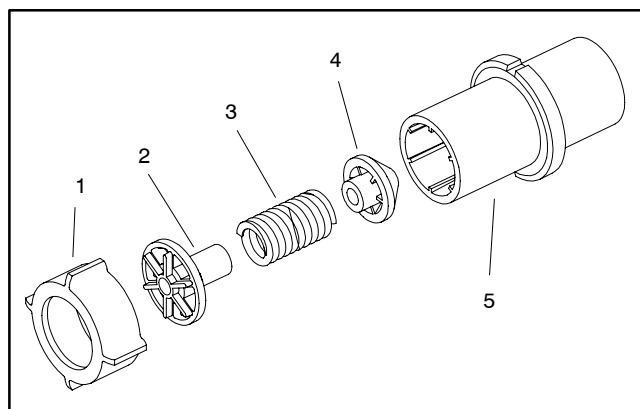

Figure 18
5. Disassemble relief valve using Figure 18 as a guide.
1. Replace relief valve components that are worn or damaged. Assemble relief valve using Figure 18 as a guide.